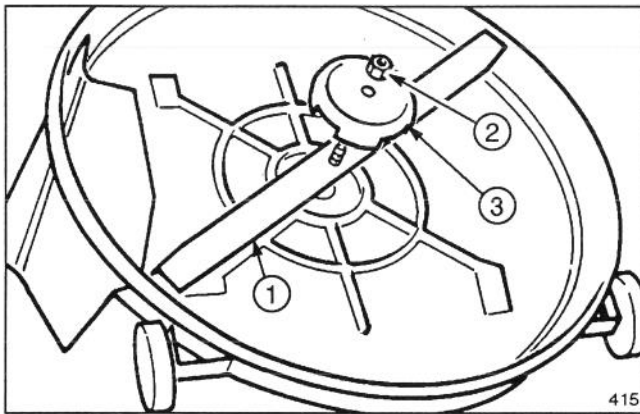
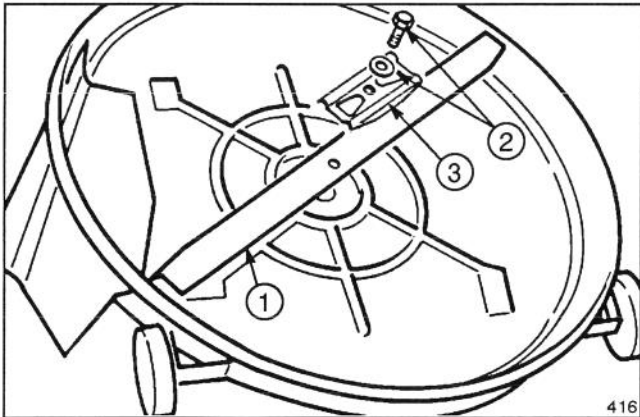

Figure 10
Figure 11
1. Depending on your unit, install in sequence the new blade, anti-scalp cup (if one was on unit), and lock nut (Fig. 10) or the new blade, blade stiffener (if one was on unit), washer and blade bolt (Fig. 11). Tighten blade bolt to 50 ft-lbs.